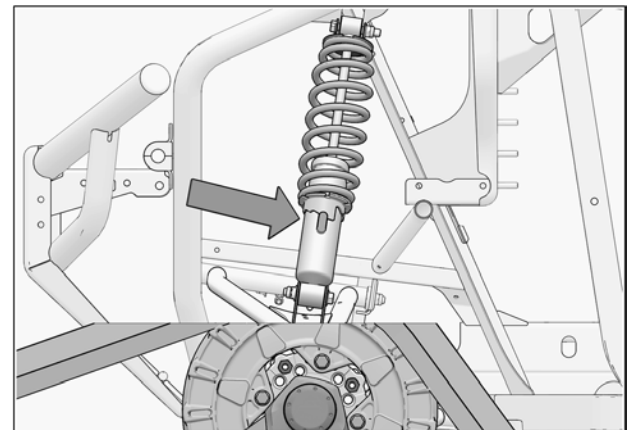

Fig. 26
2. Verify the suspension settings. If the shock absorbers are adjustable, adjust them to the stiffest setting to allow for maximum clearance between the System and the vehicle's fenders. See Fig. 26
3. Verify for possible contact between Track System and lower fender corners. See Fig. 26